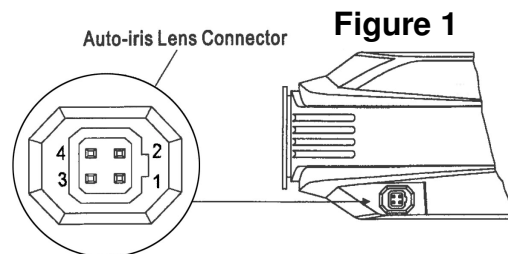

Figure 1
- a. An unwired 4-pin is included in the hardware kit. Use this connector if the lens wires terminate as flying leads. Refer to the chart below Figure 1 and the lens installation manual for wiring information.